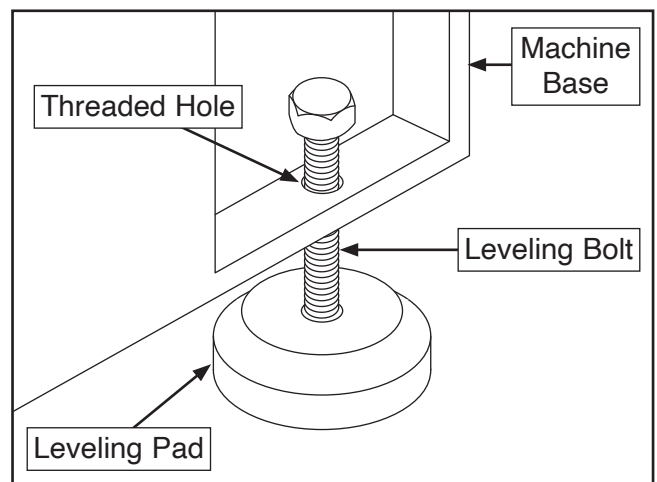

Figure 24. Leveling pad and bolt installed.
10. With machine suspended, thread leveling bolts into machine base (see **Figure 24**).
11. Position leveling pads underneath leveling bolts, then lower machine until bolts rest on center of pads (see **Figure 24**).